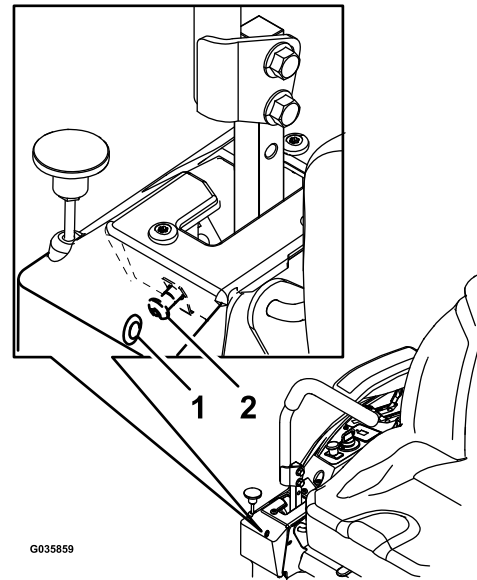

**Figure 58**
**Note:** The upper hoop of the roll bar may need to be pushed forward or pulled rearward to fully engage both knobs (Figure 57 and Figure 58).